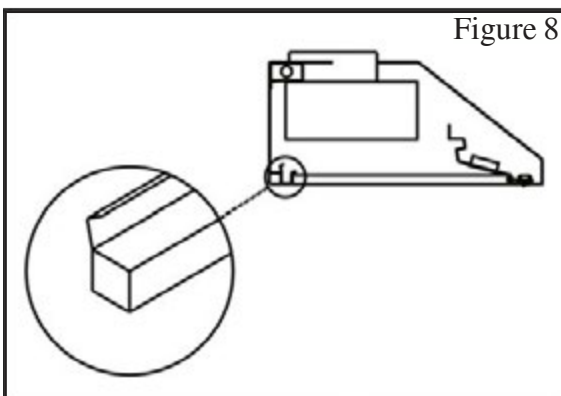

Figure 8
6. Drop oil tunnel into recess support near rear of hood. Refer to Figure 8.